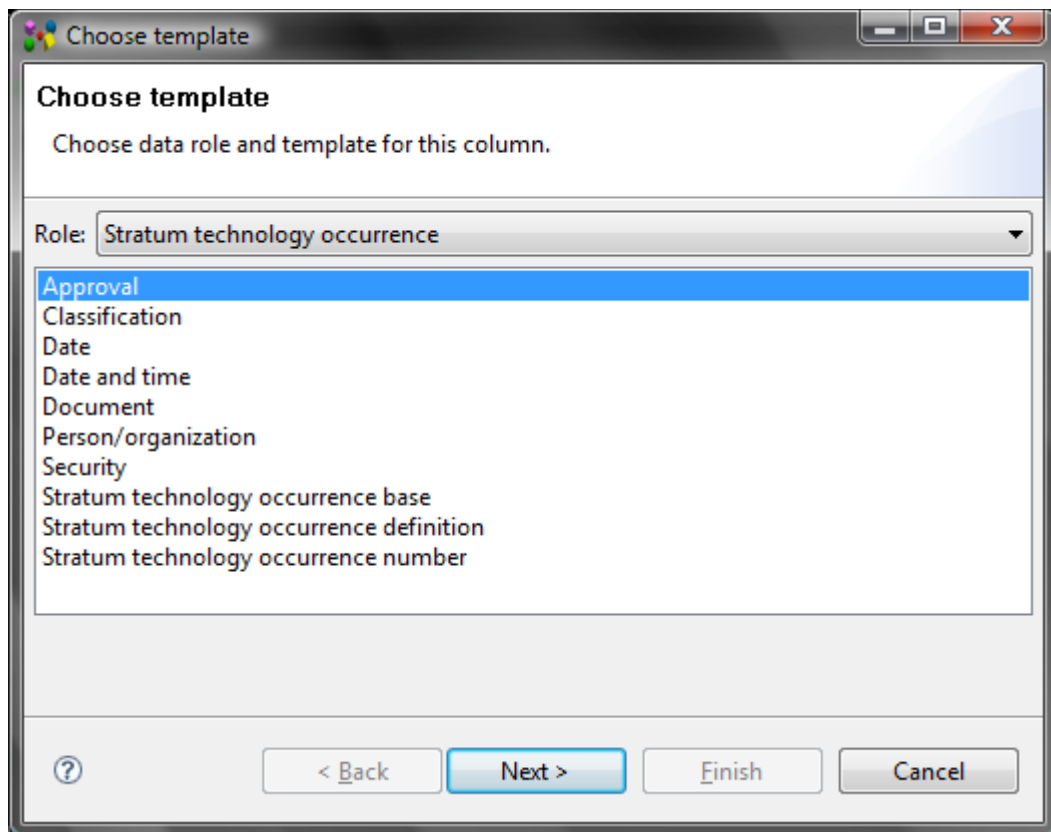

Figure 6. Wizard page to choose data role and template for the column
- **Add Template** button - create a new template for the column. After this button is pressed a new wizard dialog page appears on the screen (see Figure 6) to choose a role and a template for the column to be created.